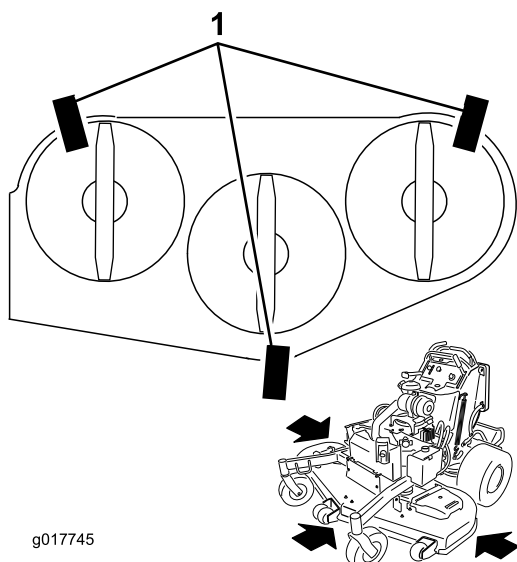

Figure 93
1. Place 3 pieces of 2x4 wood under the mower deck as shown in Figure 93. Stand the 2x4's on the 4 inch part.
3. The weight of the mower deck must be resting on all three of the 2x4's (Figure 93). The back lip of the mower deck is built a 1/4 inch (6mm) lower than the front lip of the mower deck.